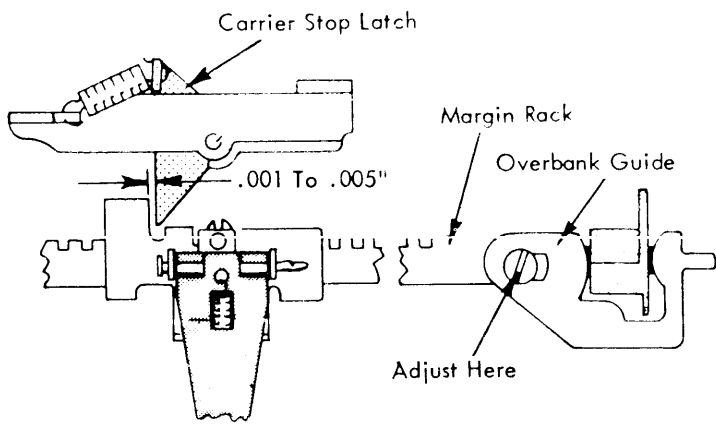

FIGURE 170. Margin Rack Overbank Guide
1. **Margin Rack Overbank Guide** - With the carrier resting at the left hand margin, adjust the overbank guide (Fig. 170) left or right on the margin rack to obtain $.001"$ to $.005"$ clearance between the margin stop and the margin stop latch on the carrier when the margin rack is in its rest position (Fig. 170). When observing this clearance remove the floating action of the margin stop latch by pulling the stop latch to the right with a spring hook.